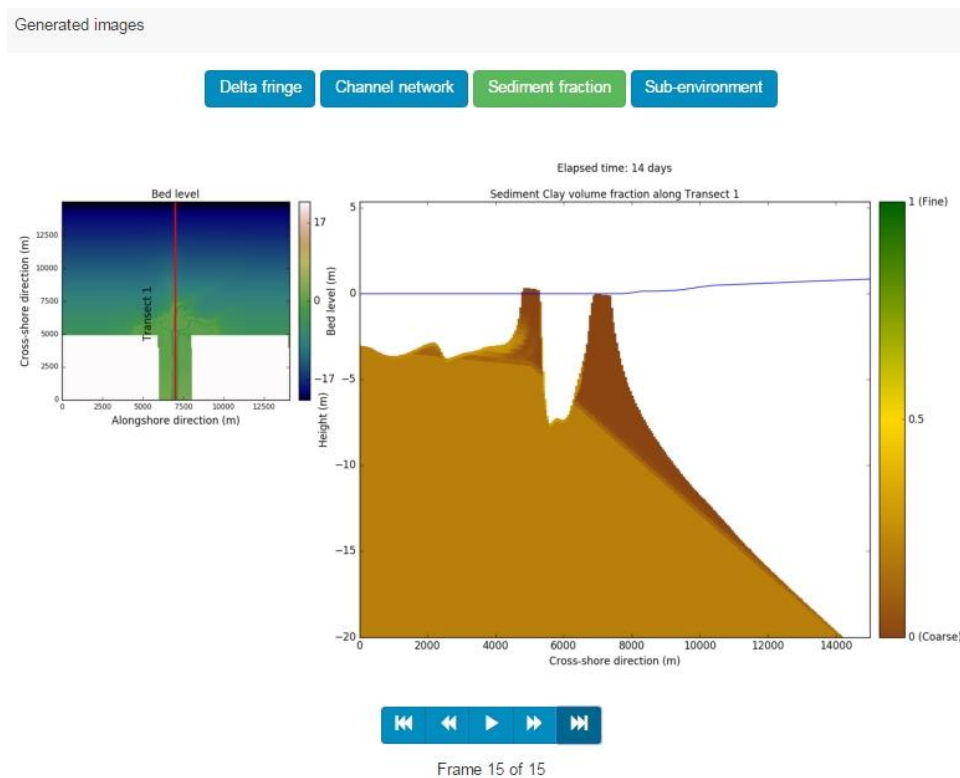

Figure 3.29 Example of sediment fraction output [needs to be updated with newest settings]
3. Cross-sectional view of the bed stratigraphy (sediment fractions) for a fixed cross-section on the central axis of the river (Figure 3.29)